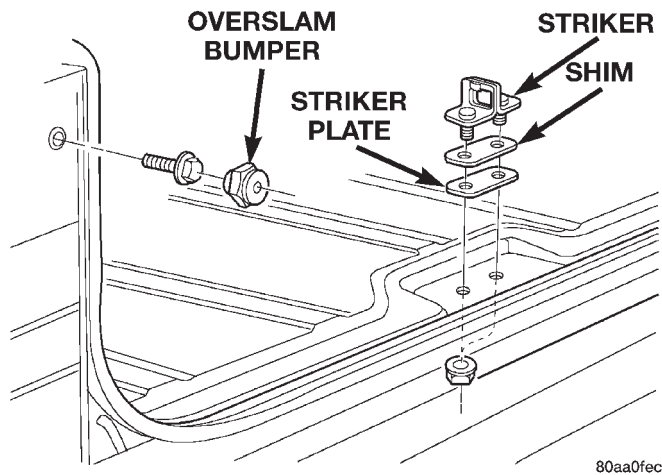

Fig. 94 Liftgate Striker
- (1) From underside of vehicle, remove nuts attaching striker to floor pan (Fig. 94).
- (2) Separate striker from vehicle.